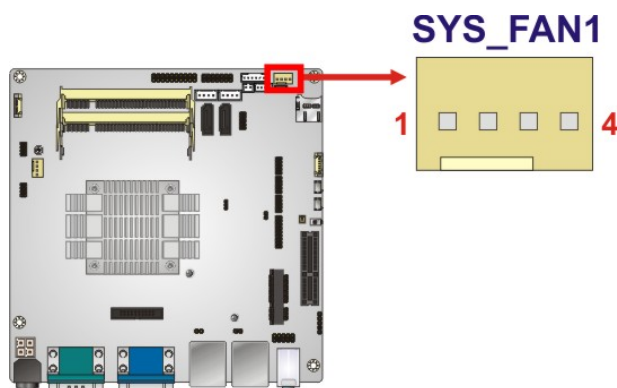

Figure 3-9: System Fan Connector Location
- CN Location:** See Figure 3-9